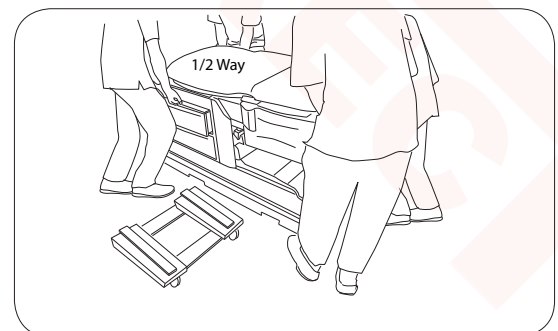

Figure 20. Lift, move half-way and lower
18. For safety, move table onto furniture dolly in two steps. Lift table straight up, move half-way off of pallet and lower straight down (Figure 20).